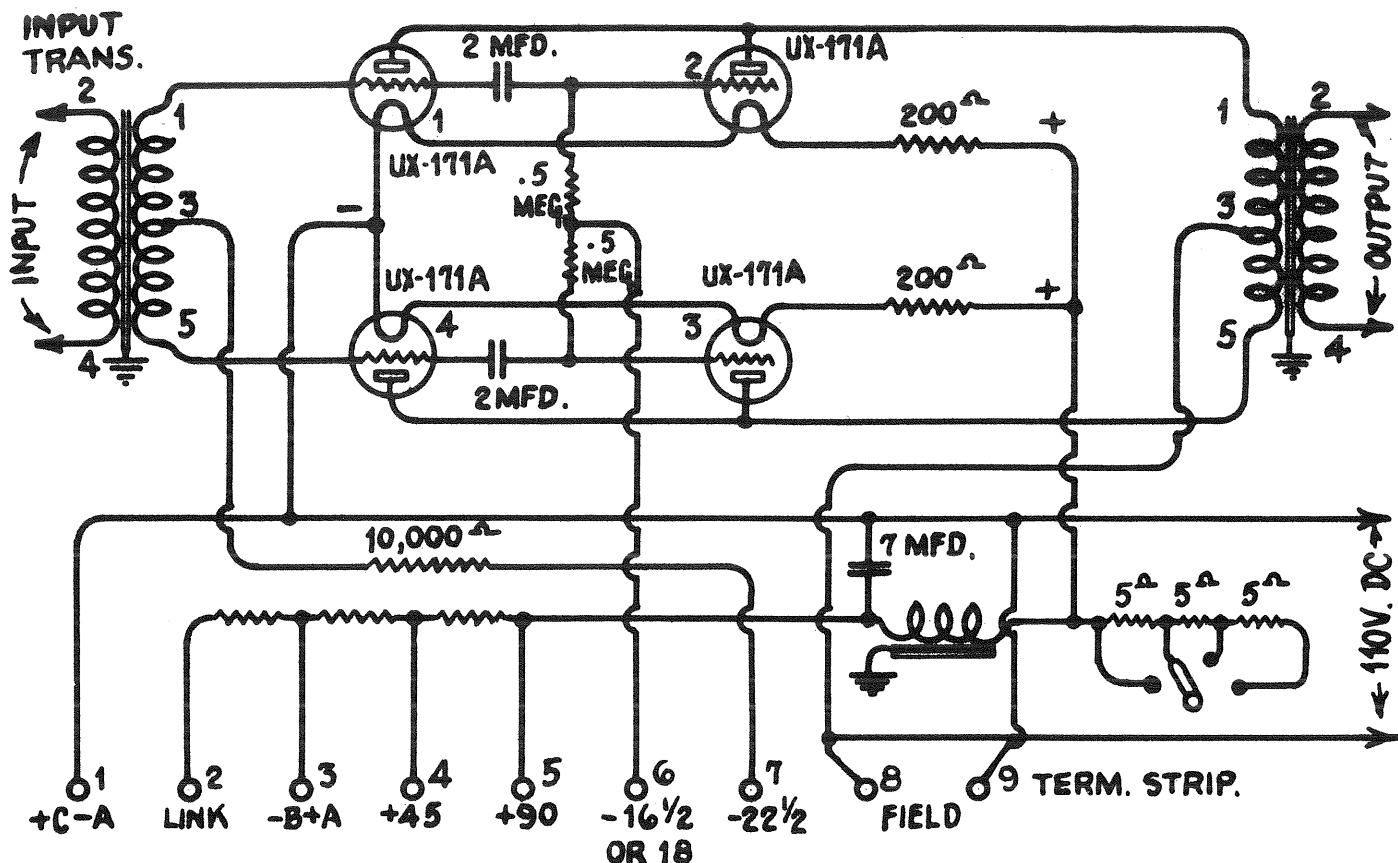

Figure 4 -- RCA Loudspeaker 104 D.C. socket power unit schematic circuit with terminal connections and "A", "B" and "C" Voltages.
The following voltages should be obtained at the terminal strip located at the rear of the Socket Power Unit. The terminal strip numbers shown in Figure 4 are located consecutively from left to right when facing the Loudspeaker from the rear, omitting the first four terminals which are for the input and output of the loudspeaker. With the loudspeaker and receiver in normal operation the following readings should be obtained on a D.C. voltmeter.
2. Instead of opening the link as on an A.C. machine, the position of the link is changed to terminals 2 and 3 (Figure 4).
(5) CONTINUITY CIRCUIT TESTS
The tabulated continuity tests cover all circuits of the Socket Power Unit. The terminal numbers in column one refer to the terminals in the S.P.U. viewed from the rear counting from left to right and omitting the first four terminals which are the input and output terminals, (See Figure 4). Tube socket contacts (G1, F2, etc.) noted in column one refer to location of tube sockets counting